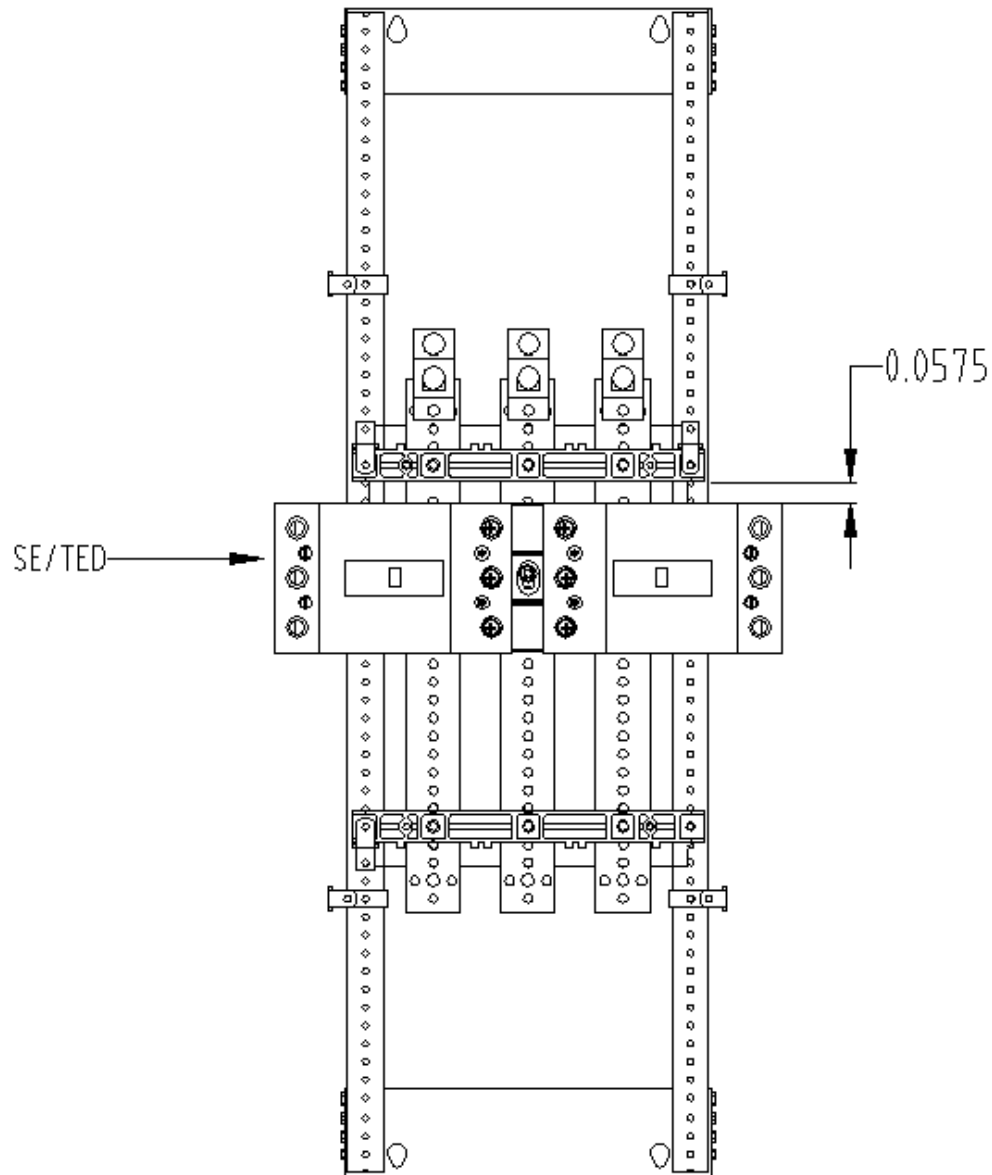

Figure 5. Distance between Crossbar and SE/TED breaker
13. If SE/TED breaker has to be installed immediate after crossbar as shown in Figure 5 then gap between the breaker and crossbar has to be 0.0575inch.